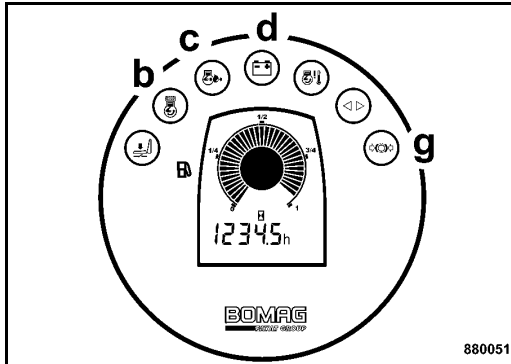

Fig. 58
All control and warning lights (Fig. 58) in the instrument cluster light up for approx. 3 seconds.
- With cold ambient temperatures hold the ignition key up to 30 seconds in position "II"; the preheating control light (b) (Fig. 58) lights up.